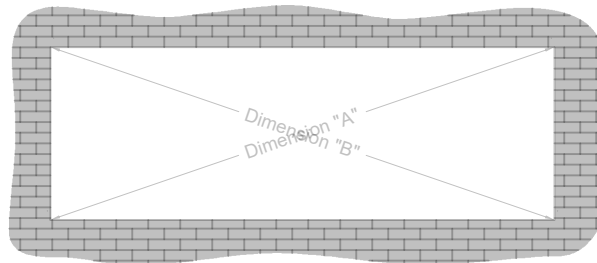

Fig. 25.1 Dimension "A" = "B"
- A. Make sure the opening is square and plumb. Measure each diagonal of the opening. **SEE Fig. 25.1.**